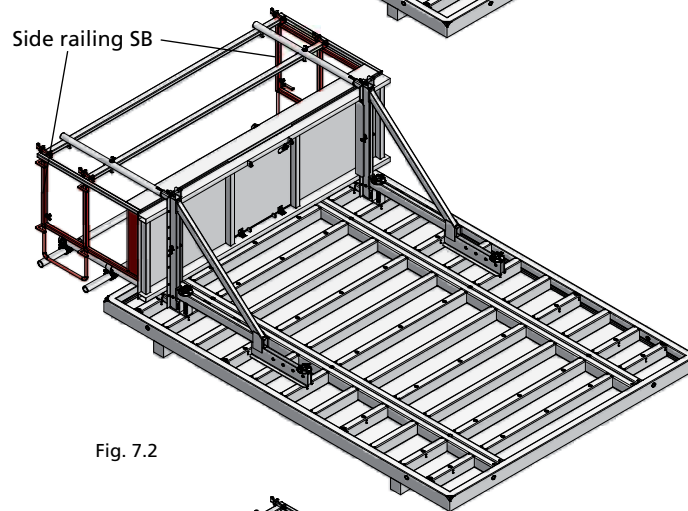

Fig. 7.2
6. Attach the side railings SB with the integrated wedges to the rear railing frame (Fig. 7.2).